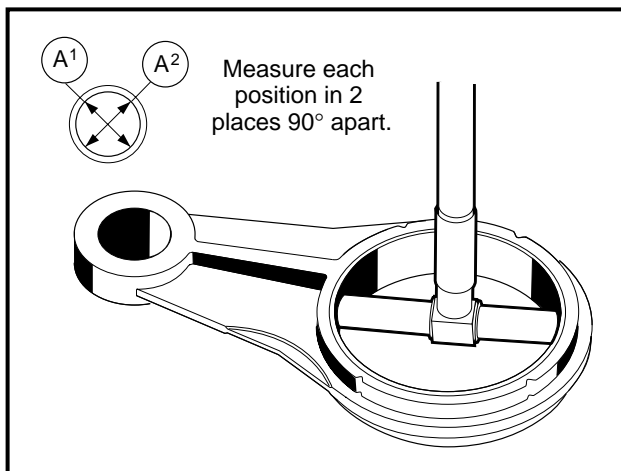

Figure 13-79 Measure Link Rod Large Bore I.D
- 1.3. If the inside diameter of the large end is greater than 1.9726 inches (50.106 mm), replace the link rod (**Figure 13-79, Page 13-37**). **See following NOTE.**